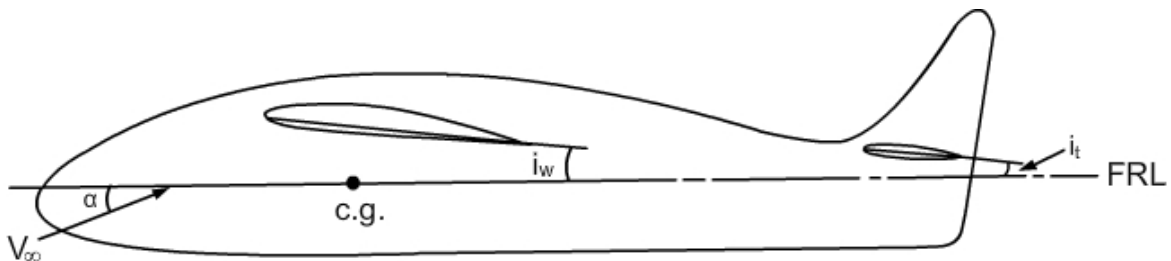

Fig.A2.2.1 Wing incidence(i_w) and tail incidence(i_t)
- **Aspect ratio (A):** It is equal to b^2 / S , where, b is the wing span measured from tip to tip perpendicular to the longitudinal axis and S is the gross wing area; gross wing area includes the wing area inside the fuselage.
- **Incidence of horizontal tail (i_t):** Angle between reference chord of horizontal tail and fuselage reference line (Fig.A2.2.1).
- **Incidence of wing (i_w):** Angle between reference chord of the wing and the fuselage reference line (Fig.A2.2.1).